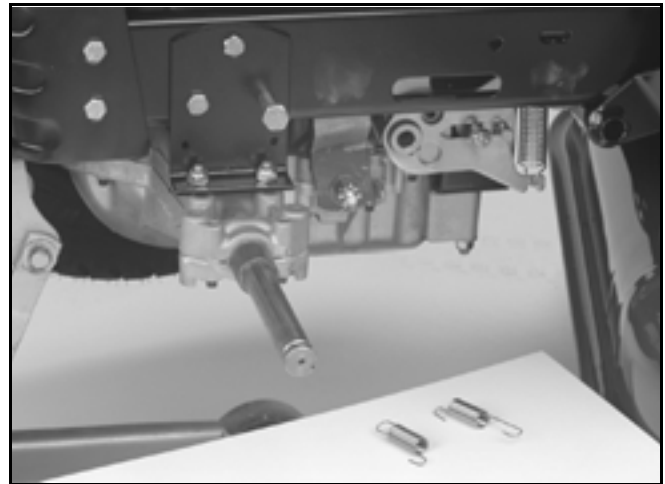

Figure 106 4017-10
2. If the brake lever is not returning to the "OFF" position, it may be necessary to install a shorter spring. The spring on the left is a shorter spring P/N 26-6700. The shorter spring is installed on all the 2000 model year Lawn Tractors. The spring on the right is the longer spring P/N 26-6701 (Figure 106).